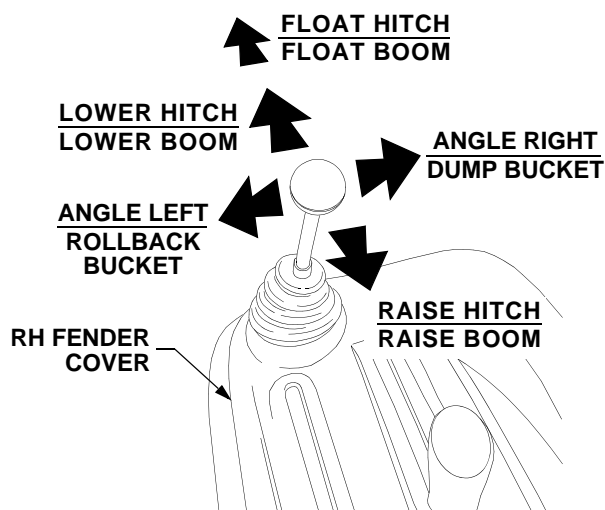

Figure 24
- Pull the handle rearward to raise the front hitch or front loader boom. See Figure 24.
- Push the handle forward to lower front hitch or front loader boom. Refer to Figure 24.
- Push the handle to the right to angle (if equipped) the front hitch to the right or dump the loader bucket. Refer to Figure 24.